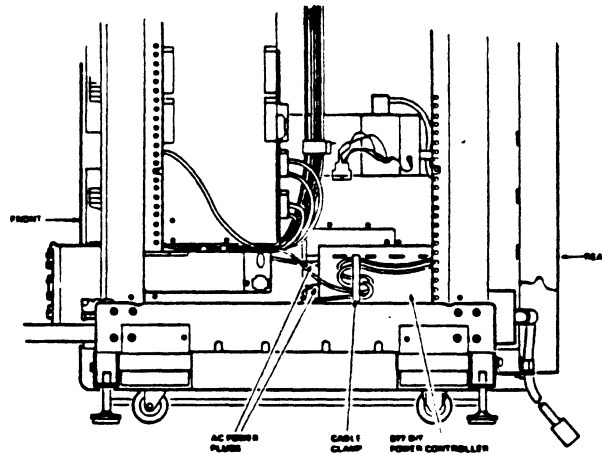

FIGURE 5-26 POWER CONTROLLER REMOVAL - SIDE VIEW
6. Label each power plug and its receptacle, and remove the plugs. See Figure 5-26.